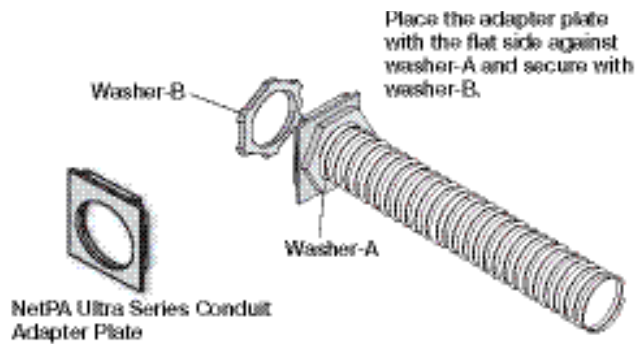

Figure 9. Secure XPA Ultra Series Adapter Plate to Conduit
7. Place the adapter plate that ships with the conduit kit on the conduit itself with the flat side of the plate facing the hexagonal nut, and secure the new plate to the conduit with the washer that was removed in step 6 (see figure 9).